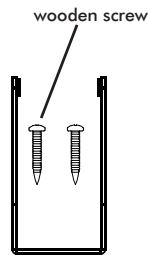

Fig 1.2
1.2 Fix the bracket on the position by anchors and wooden screws. (See Fig 1.2)